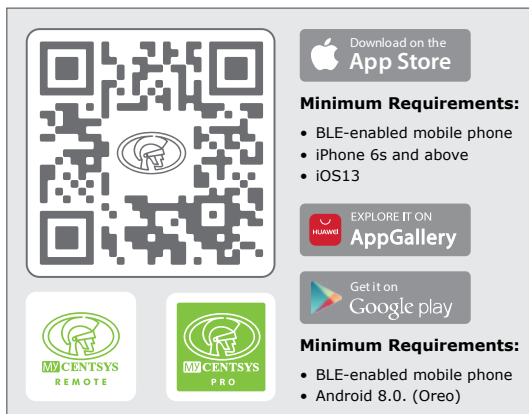

FIGURE 12
1. Scan the QR Code in Figure 12.